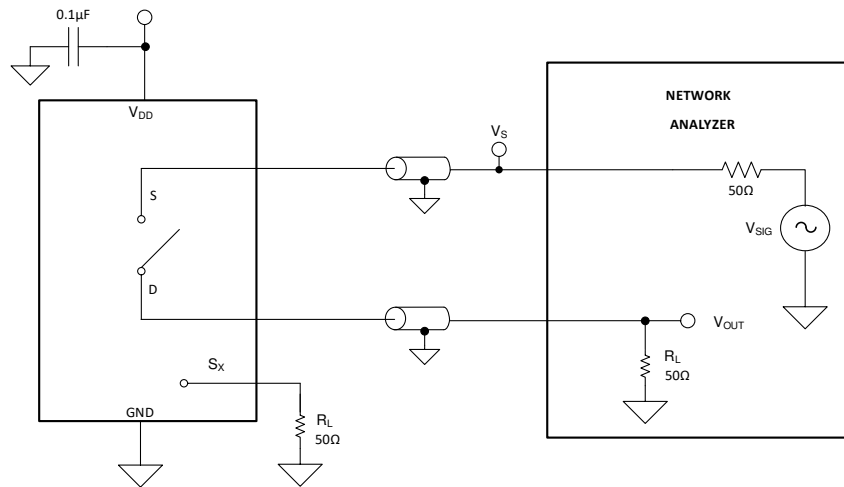

Figure 7-7. Off Isolation Measurement Setup
Off isolation is defined as the ratio of the signal at the drain pin (D) of the device when a signal is applied to the source pin (Sx) of an off-channel. Figure 7-7 shows the setup used to measure, and the equation used to calculate off isolation.